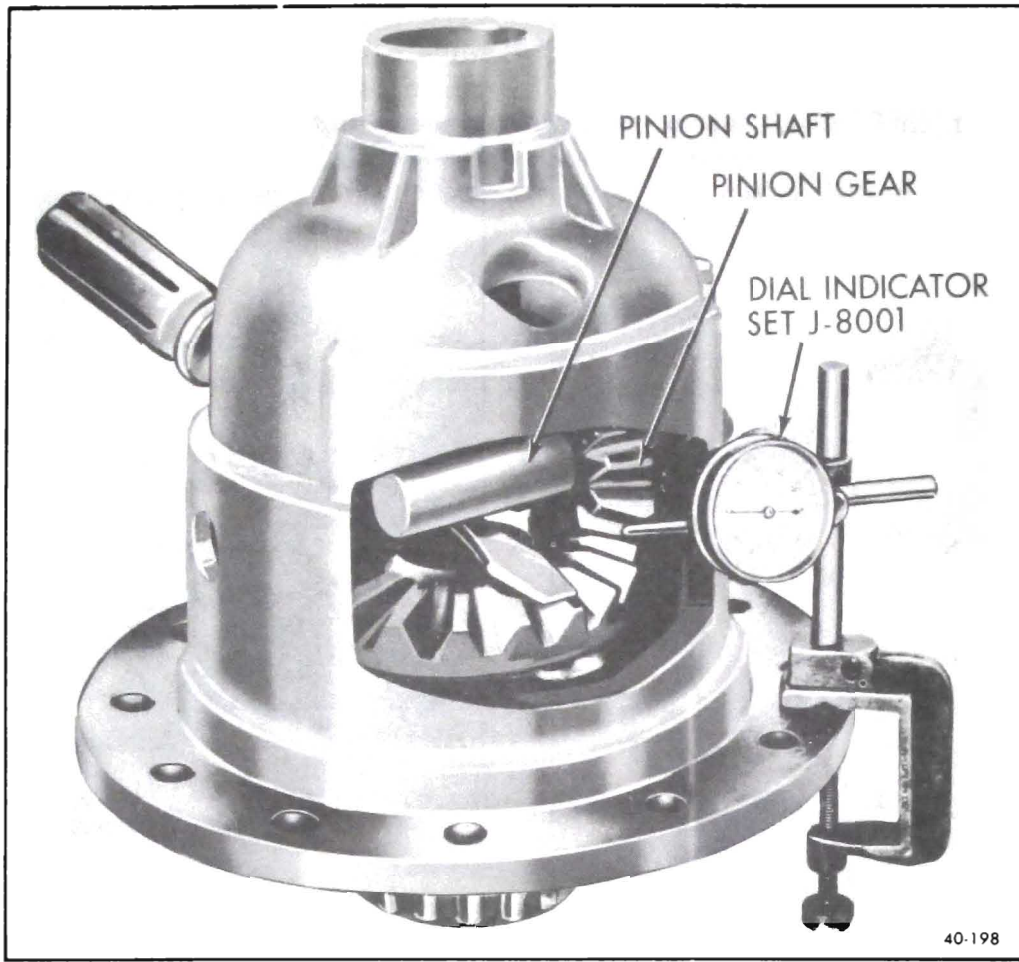

Figure 40-171 Checking Side Gear to Pinion Gear Backlash
d. Install dial indicator with the contact button against the pinion gear. See Figure 40-171.